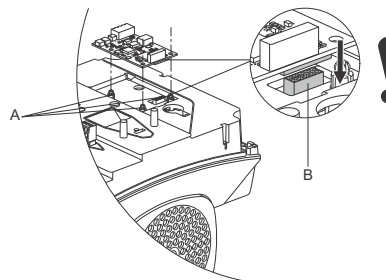

Fig. 59 Fitting the CIM module
4. Fit the CIM module by aligning it with the three plastic holders (fig. 59, A) and the connecting plug (fig. 59, B). Press home the module using your fingers.